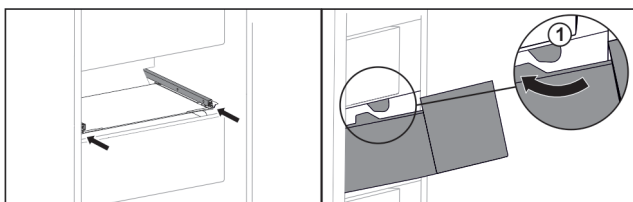

Fig. 118
- ▶ Guide drawer around the stoppers Fig. 118 (1).